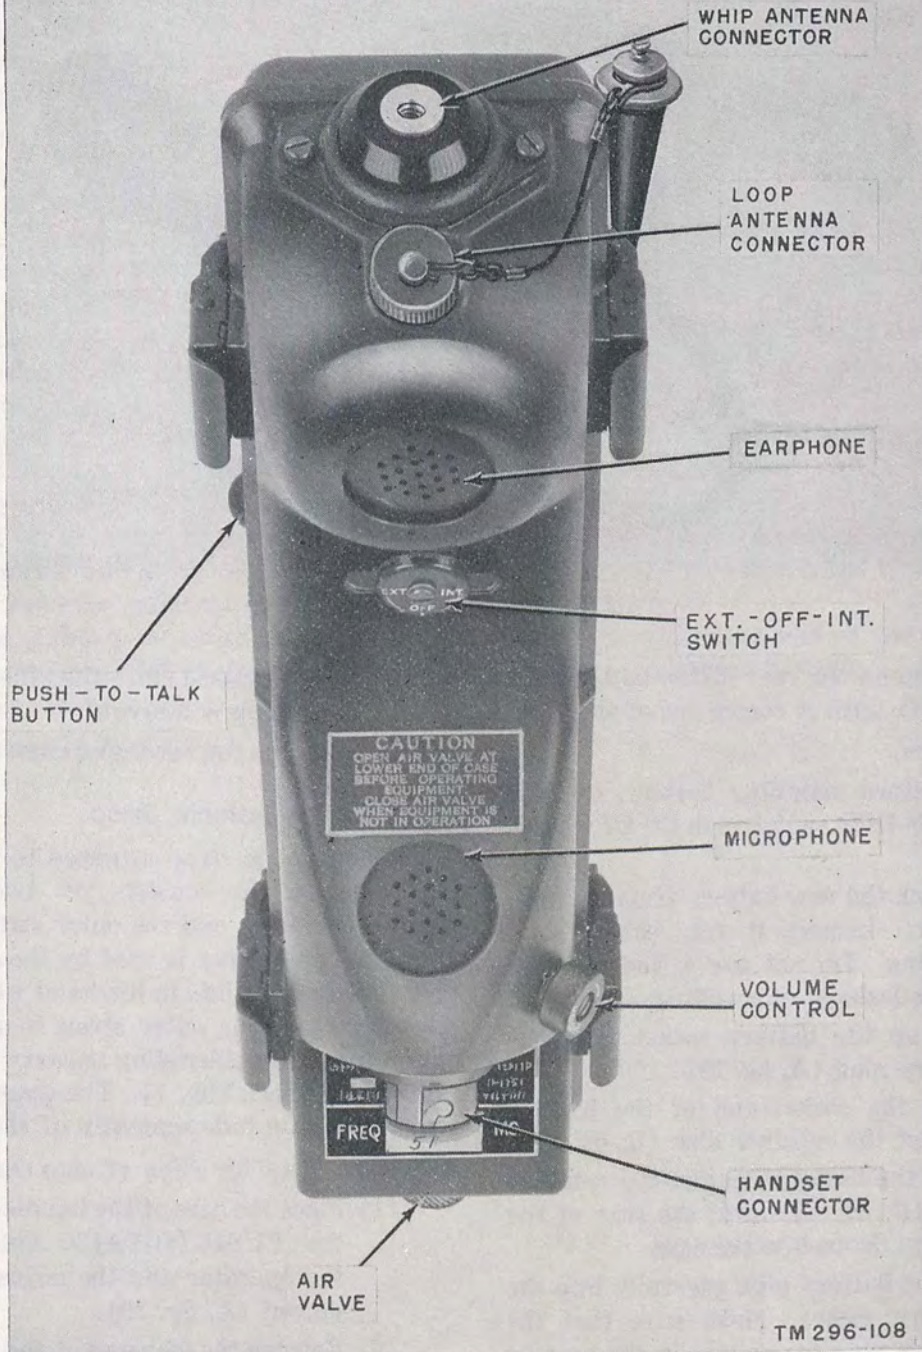

Figure 15. Radio Set AN/PRC-6, controls and connectors.
k. Counter 7 Adjustment. Set the selector switch to P.A.P. Connect the whip antenna to the antenna connector (fig. 15). Press the push-to-talk microswitch and turn counter 7 adjust until a maximum meter reading is obtained. (Do this step in a clear area and keep body away from the antenna.)
- (1) Unscrew the base of the whip antenna from the whip antenna connector.
- (2) Push the tip of the antenna through latches 4, 3, and 2.
- (3) Place the tip of the antenna under the antenna holding clip.
14. To Receive and To Send (Handie-Talkie) (fig. 15)